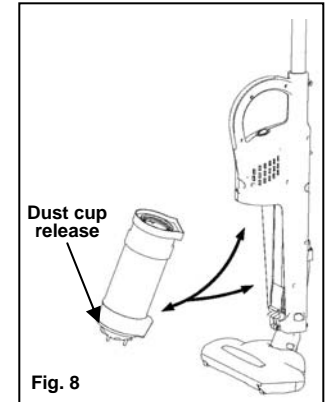

Fig. 8
1. To remove the dust cup, press the dust cup release that is on the bottom of the dust cup. (Fig. 8)